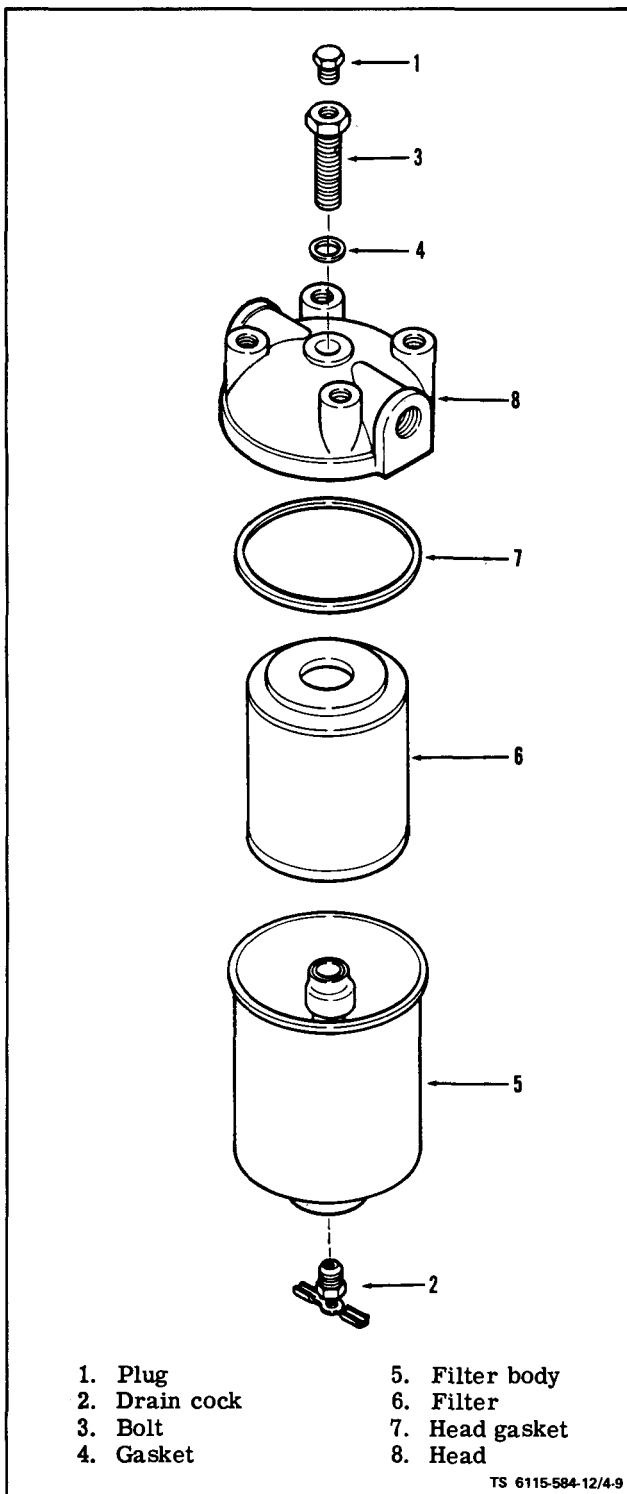

Figure 4-9. Fuel Filter
(1) Fuel Filters (see figure 4-9). On ASK equipped generators, remove tight panel assembly (para 6-6). Remove plug (1), open drain cock (2) and drain fuel into suitable container. Remove bolt assembly (3), gasket (4) and filter body (5). Remove filter element (6) and gasket (7). Inspect element for ruptures, clogs or other
(1) Fuel Filters (see figure 4-9). Remove plug (1), open drain cock (2) and drain fuel into suitable container. Remove bolt assembly (3), gasket (4) and filter body (5). Remove filter element (6) and gasket (7). Inspect element for ruptures, clogs or other